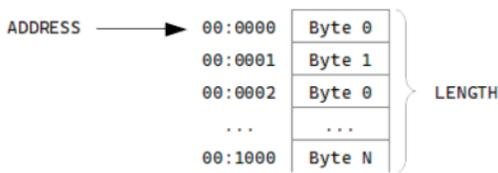

Figure 1: A linear (1D) memory block
**LINEAR <address>, <length>** This structure specifies that the block is 1D or linear and starts at <address> and consists of <length> contiguous bytes. (See: Figure 1)